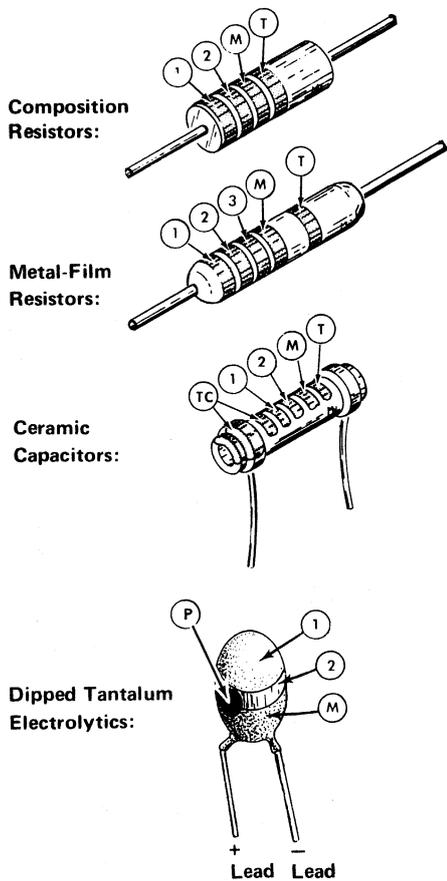

Fig. 3-1. Color-code for resistors, ceramic capacitors, and dipped tantalum electrolytic capacitors.
**Resistor Color-Code.** The resistors used in this instrument are either brown composition resistors or precision metal-film resistors. The resistance values are color-coded on the components with EIA color-code (some metal-film resistors may have the value printed on the body). The color-code is read starting with the stripe nearest the end of the resistor. Composition resistors have four stripes which consist of two significant figures, a multiplier, and a tolerance value (see Fig. 3-1). Metal-film resistors have five stripes consisting of three significant figures, a multiplier, and a tolerance value.
**Capacitor Marking.** The capacitance values of common disc capacitors and small tubular electrolytics are marked in microfarads on the side of the component body. The molded electrolytic and the white ceramic capacitors used in the 211 are color coded in picofarads using a modified EIA code (see Fig. 3-1).